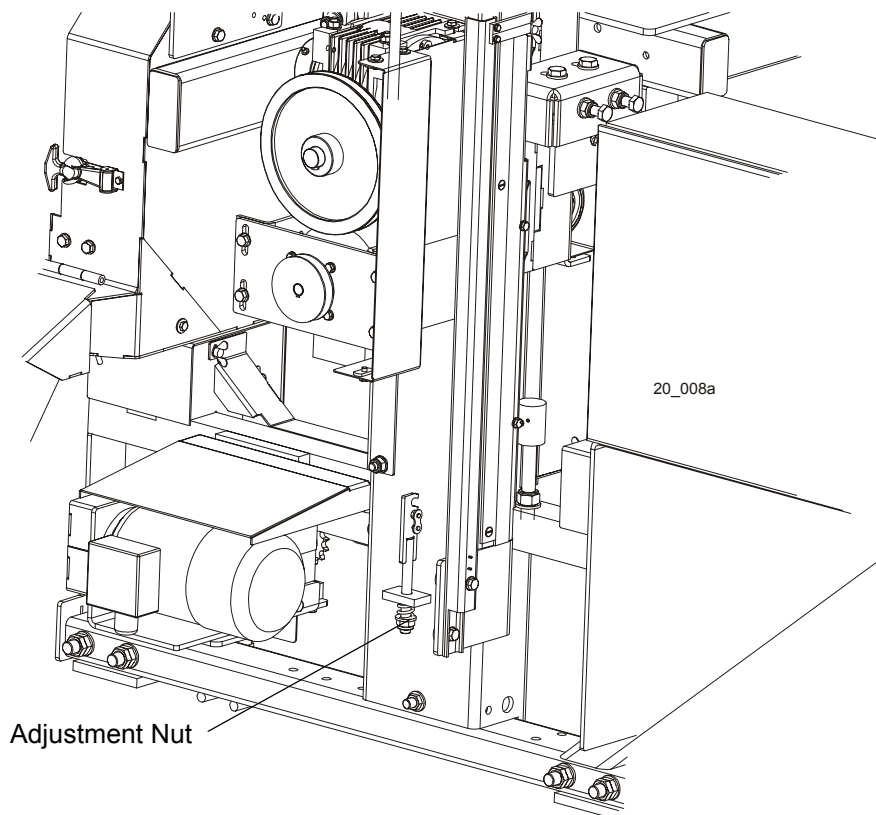

FIG. 4-6
1. Adjust the up/down chain tension as needed. Measure chain tension with the cutting head all the way to the top of the vertical mast. Secure the carriage with a chain at the top, or shim it underneath. Using the adjustment nut shown in Figure 4-6, adjust the chain tension so that there is 1" (2.5 cm) deflection in the center of the chain with a 5 lbs. (2.3 KG) deflection force.
See Figure 4-6. Use the adjustment nut shown below to tension the chain.